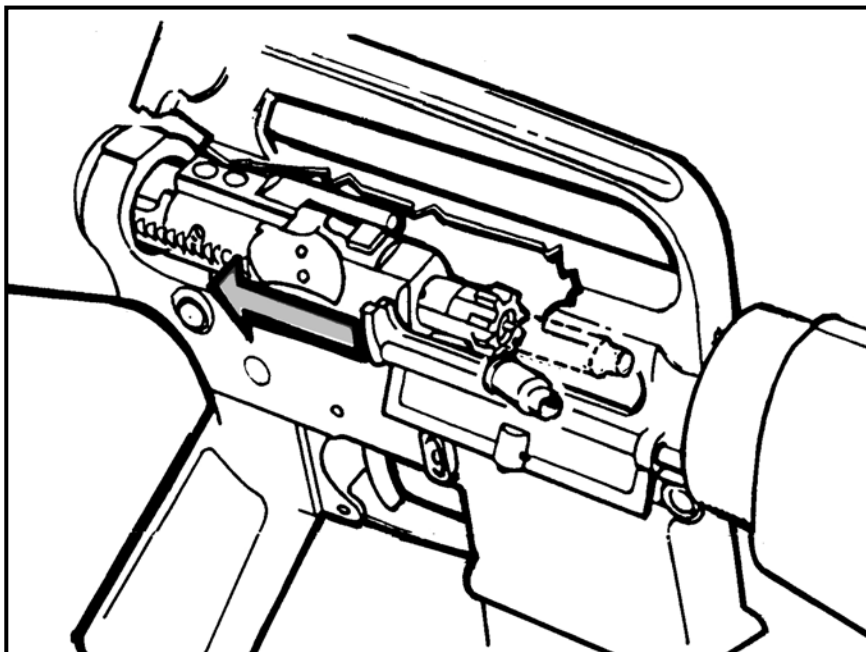

Figure 4-9. Ejecting.
g. **Ejecting** (Figure 4-9). With the base of a cartridge case firmly against the face of the bolt, the ejector and ejector spring are compressed into the bolt body. As the rearward movement of the bolt carrier group allows the nose of the cartridge case to clear the front of the ejection port, the cartridge is pushed out by the action of the ejector and spring.